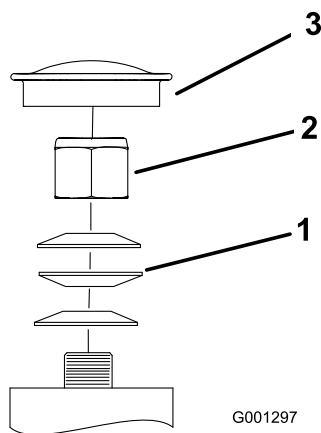

Figure 57
3. Remove the dust cap from caster and tighten lock nut (Figure 57).
4. Tighten the locknut until the spring washers are flat and then back off a 1/4 turn to properly set the pre-load on the bearings (Figure 57).
Important: Make sure spring washers are installed correctly as shown in Figure 57.
5. Install the dust cap (Figure 57).